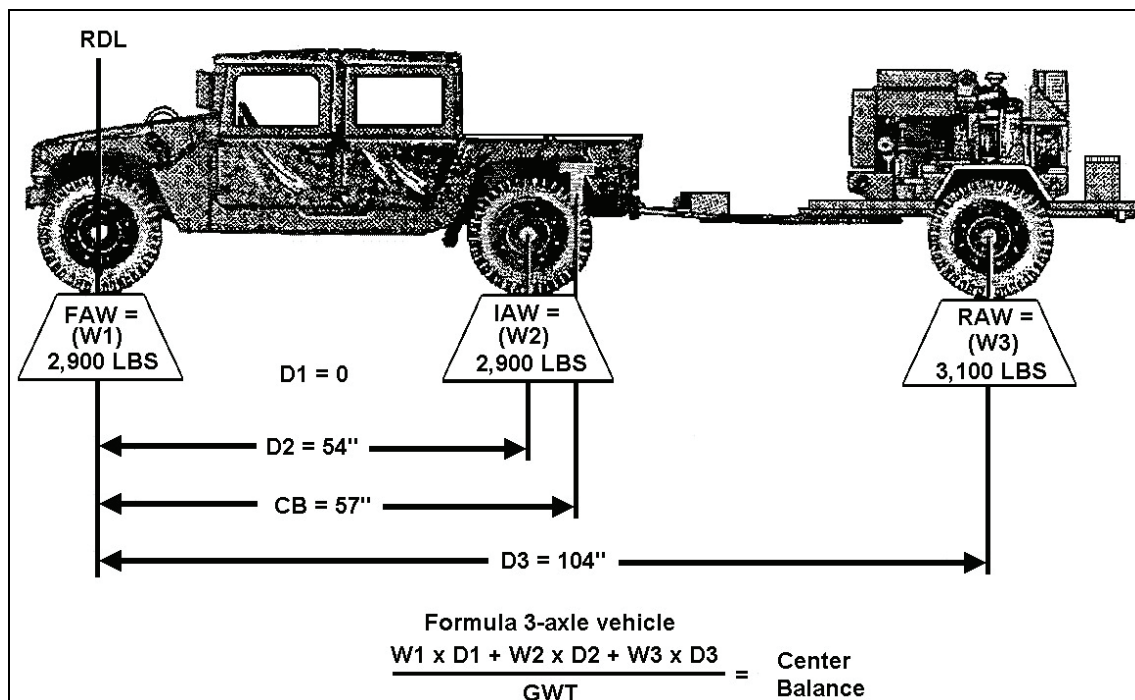

Figure 3-100. Writing Letters CB on Vertical Portion of T-shape and Annotate the CB in Inches
- d. Write the letters "CB" on the vertical portion of the T-shape and annotate the CB in inches (example: 57 inches) (see Figure 3-100).